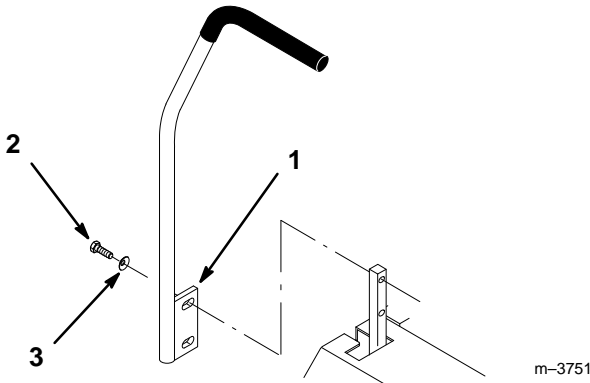

Figure 3
1. Remove the (4) 3/8–16 x 1” (26 mm) bolts and (4) 3/8” spring washers which attach the motion control levers to the control arm shafts for shipping (Fig. 3).
2. Place the levers (with the mounting plate towards the rear) on the outside of the control arm shaft and secure with (4) 3/8–16 x 1” (26 mm) bolts and (4) 3/8” spring washers (Fig. 3).
4. Align the front/rear position of the levers, with each other, in the neutral position. Loosen hardware and adjustment by sliding/tilting the lever(s) forward or backward until properly aligned(Fig. 3).